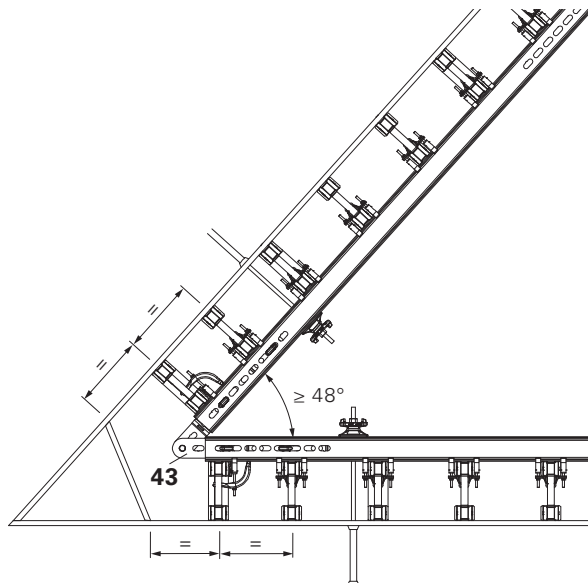

Fig. C2.01
With the Articulated Coupling GKZ (43), angles larger than  $48^\circ$  can be continuously formed. (Fig. C2.01)